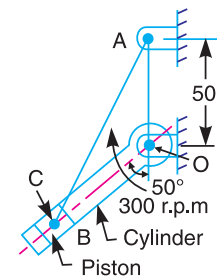

Fig. 8.34
**Example 8.16.** The kinematic diagram of one of the cylinders of a rotary engine is shown in Fig. 8.34. The crank  $OA$  which is vertical and fixed, is 50 mm long. The length of the connecting rod  $AB$  is 125 mm. The line of the stroke  $OB$  is inclined at  $50^\circ$  to the vertical.